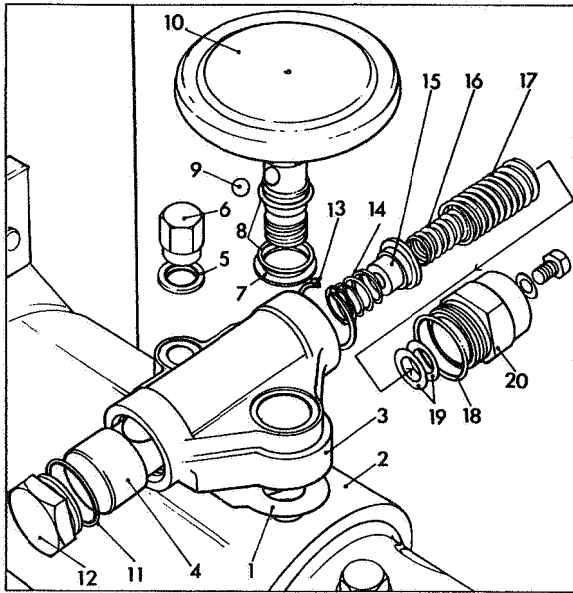

Fig 91 Assembling auto advance device
Offer up new housing gasket (1) Fig 91 to pump housing (2). Inspect piston housing (3) to ensure that the blank end of piston (4) is towards the oil feed drilling end of piston housing. Assemble the housing and piston assembly to the pump housing. Ensure that the cam advance screw engages with the piston and lightly secure the assembly in place with cap nut washer and cap nut (5 & 6). Assemble washer (7) into piston housing, stud seals (8), and steel ball (9) to damper (10). Screw in damper to pump housing and progressively and evenly tighten cap nut, damper, head locking screw and cambox proportional pressurising valve to correct torque values. Ensure the piston moves freely.